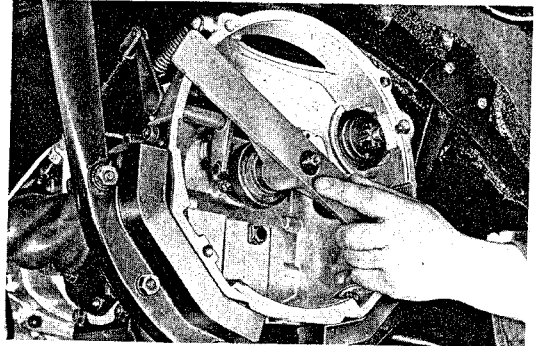

Fig. 24
3. The clutch release bearing must be parallel to the gearbox flange (Fig. 24). Check with special tool P 35a. The correct distance from the flange to the bearing face is 50 mm ($1\frac{31}{32}$ in.).